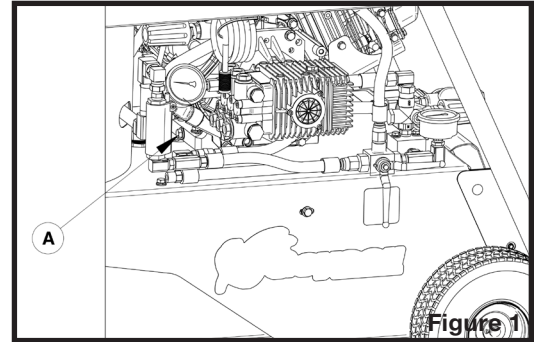

Figure 1
2. Unscrew the oil drain plug (A on figure 1).